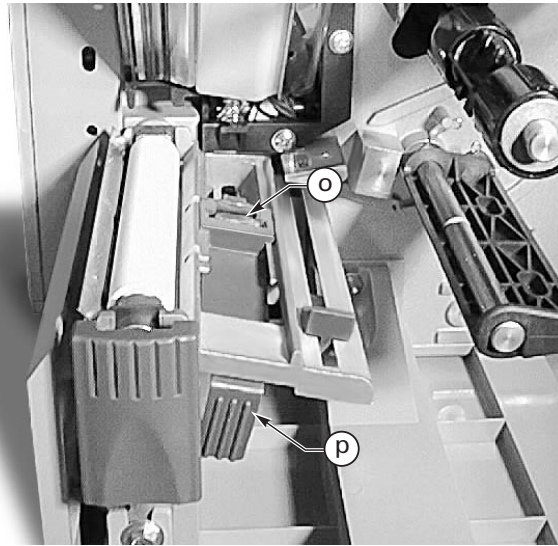

Figure 6. Sensor Positioning
1. To properly position the Media Sensor(o), refer to Figure 6.